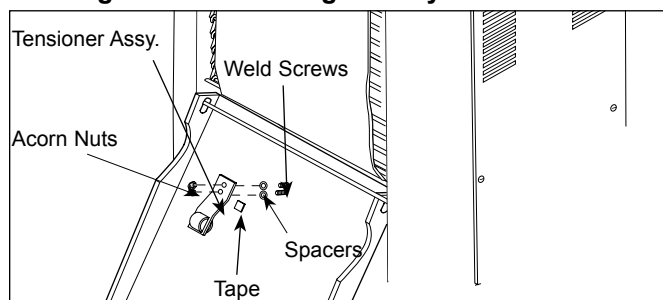

Figure 17. Replacing Roller Tensioner Assy. back together.
1. Remove the acorn nuts and the old Roller Tensioner assembly (Figure 17).